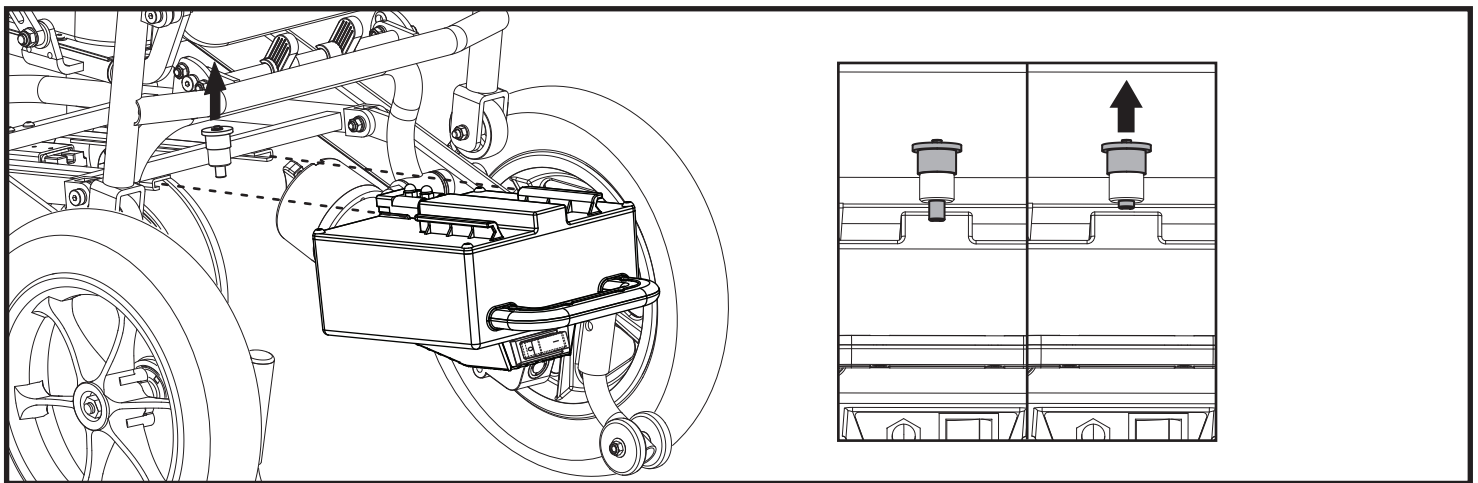

Figure 4. Battery Box Removal/Installation
2. Install the battery box into the battery tray by sliding it horizontally into the rear of the frame beneath the seat until the securement pin clicks into place. **See figure 4.**
5. Grasp the battery box handle and lift up the locking pin to disengage the box from the power base, then slide the battery box out of the power base. **See figure 4.**